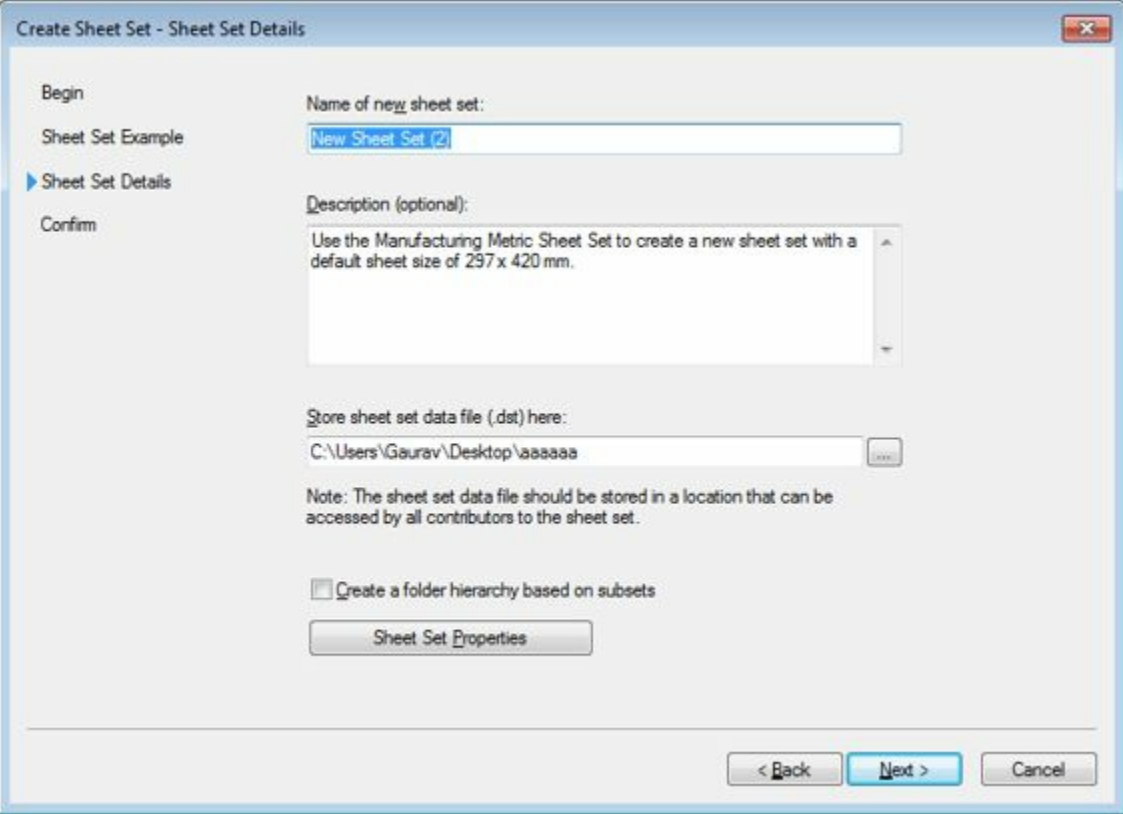

Figure-22. Sheet Set Details page of Create Sheet Set dialog box
- Select the desire sheet set template from the box and click on the **Next** button from the dialog box. The **Sheet Set Details** page will be displayed as shown in Figure-22.